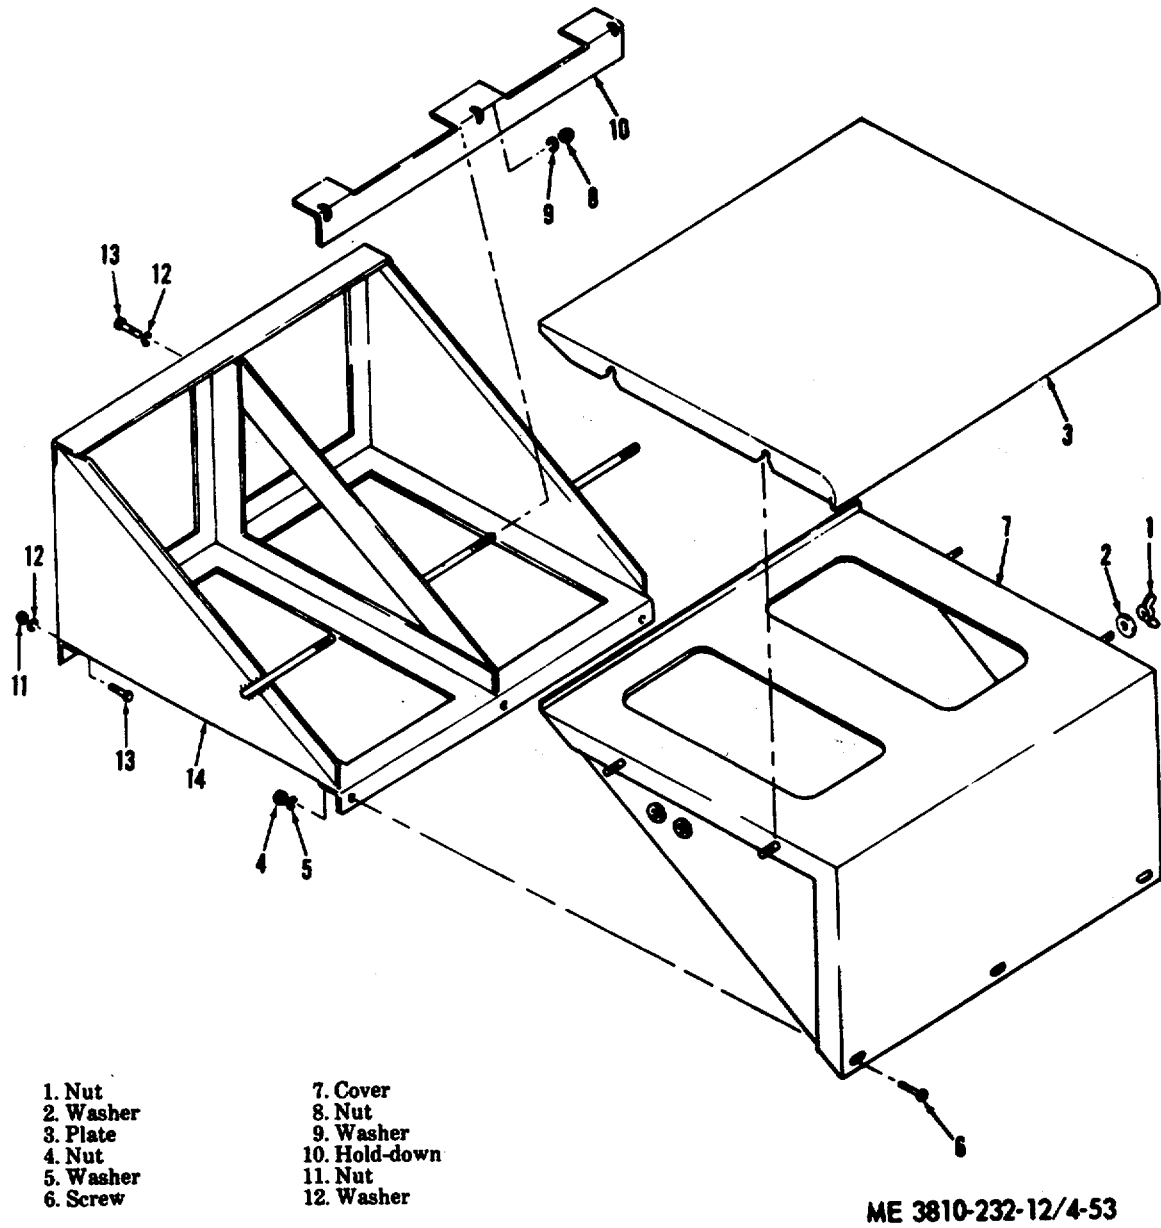
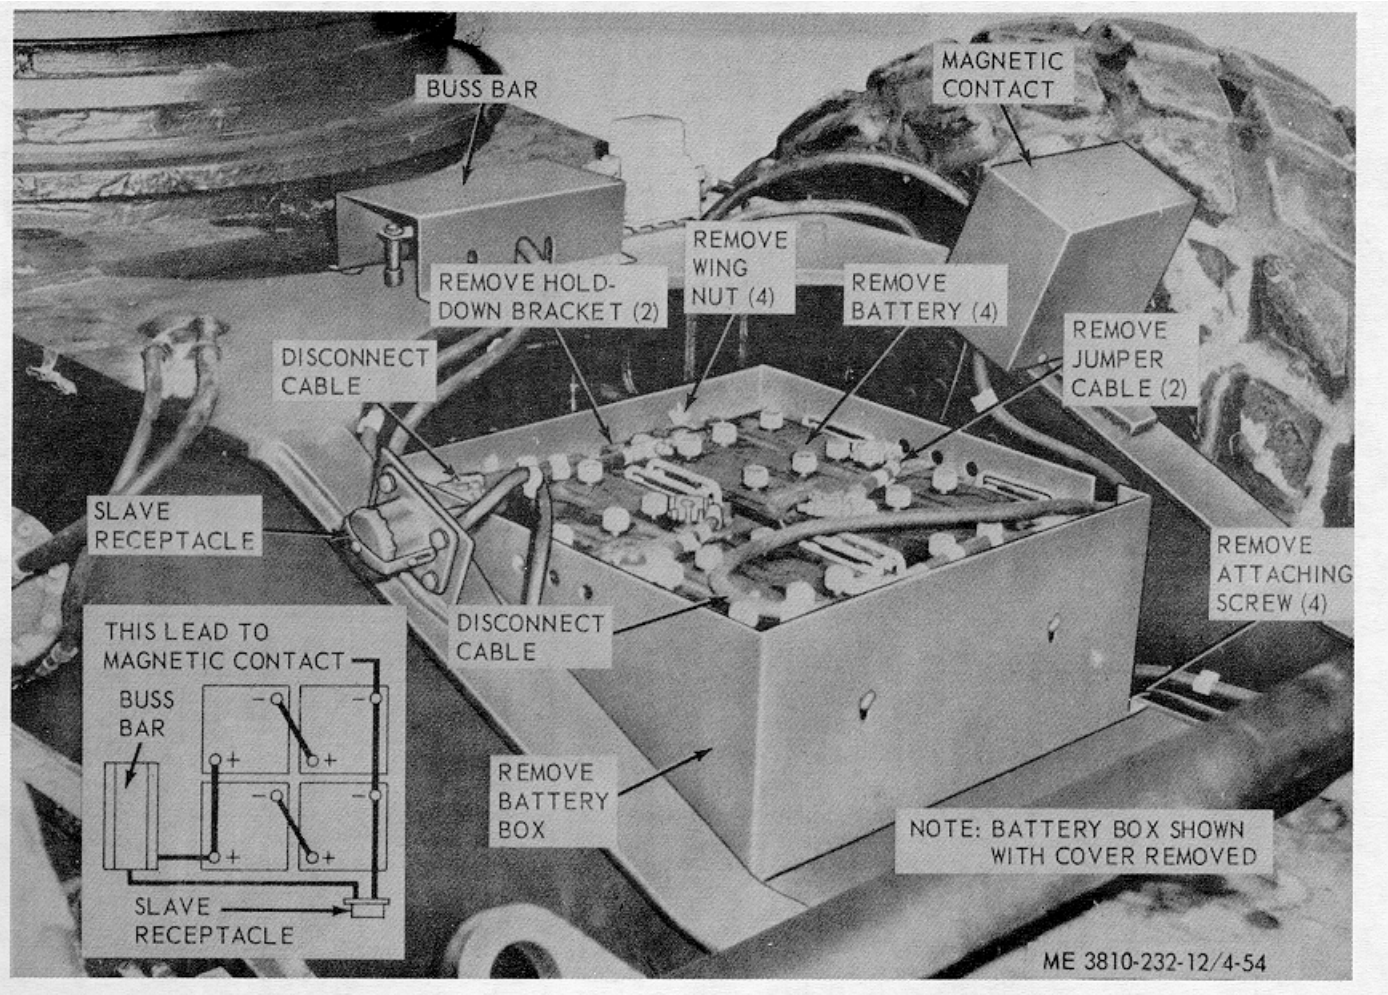
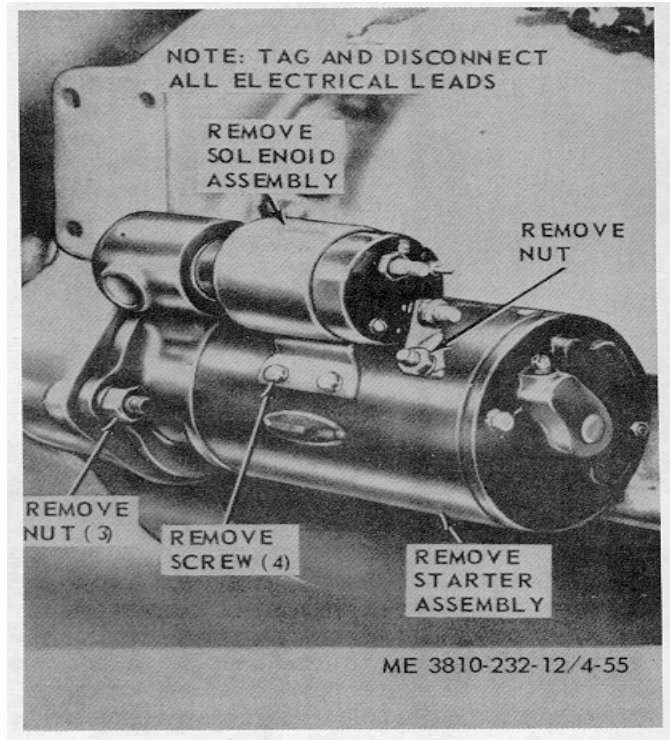

Figure 4-53. Carrier battery box, removal and installation (model 2380)
Figure 4-54. Carrier battery box, batteries and cables, removal and installation (model 2885).
Figure 4-55. Carrier engine s tarter and solenoid relay, removal and installation.
(1) Remove box top plate, inner cover and battery hold-down bracket as illustrated in figure 4-53.
- (2) Remove batteries and cables.
- (3) Remove battery box (fig. 4-53).
- (1) Install battery box (fig. 4-53).
- (2) Install batteries and cables.
- (3) Install battery hold-down brackets, battery box inner cover and top plate.
- f. Removal (Model 2385). Refer to figure 4-54 and remove batteries.
- (1) Replace battery that will not hold or take charge.
- (2) Replace damaged cables.
- (3) Replace a damaged battery box.
- i.. Installation (Model 2385). Install batteries and cables as shown in figure 4-54.
- (1) Remove right-hand exhaust pipe (para 4-16).
- (2) Remove starter and solenoid relay as illustrated in figure 4-55.
- (1) Install solenoid relay and starter as illustrated in figure 4-55.
- (2) Install right hand exhaust pipe (para 4-16).